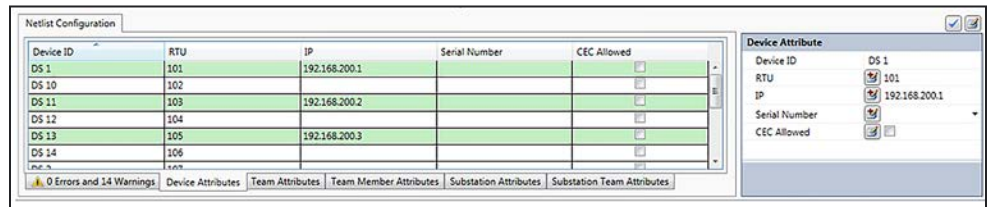

Figure 69. IP addresses have been updated.
STEP 9. This will update the devices with incrementing IP addresses (i.e. 192.168.200.1, 192.168.200.2, etc.). See Figure 69.